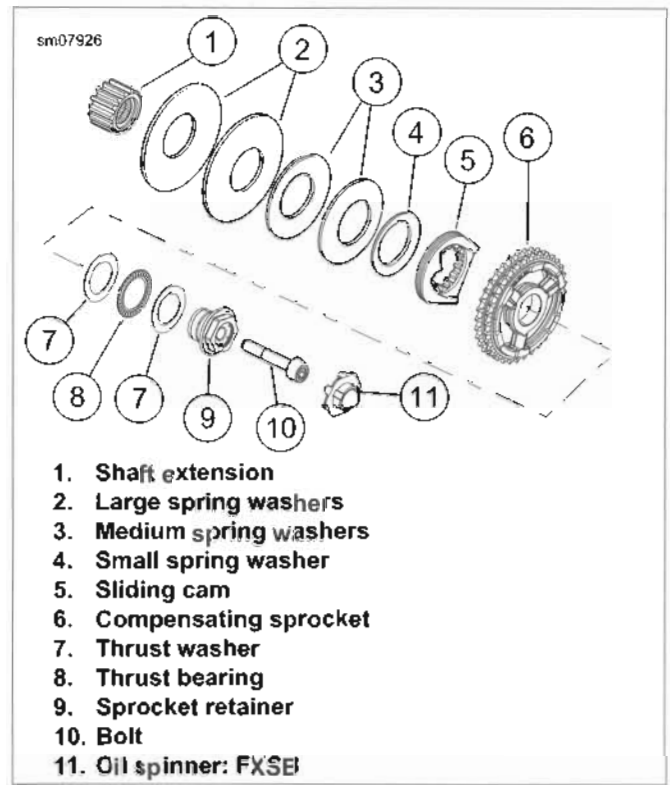

Figure 5-9. Engine Compensating Sprocket Assembly
11. **FXSB:** see Figure 5-9. Remove oil spinner (11).
12. See Figure 5-9. Remove bolt (10), sprocket retainer (9), washers (7) and thrust bearing (8).